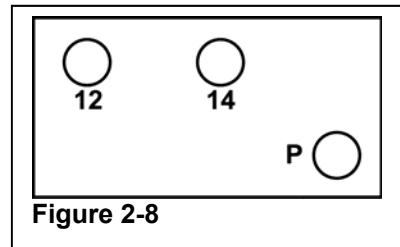

Figure 2-8
- Step 3. Wipe the mounting surfaces with a damp cloth. Align the air outlet with the inlet on valve cap and attach control module to the valve cap with the four (4) provided bolts. Torque to 5 ft/lbs [6.8nm].
- Step 4. Connect one hose to the right side fitting (14) on the manifold, connect opposite end to right "OUT" port on the pendant. (See Figure 2-8)
- Step 5. Connect second hose to left side fitting (12) on the manifold, connect opposite end to "OUT" port on the pendant. (See Figure 2-8)
- Step 6. Connect the third hose to the far right fitting (P) on the manifold, connect the opposite end to the center "IN" port on the pendant. (See Figure 2-8)